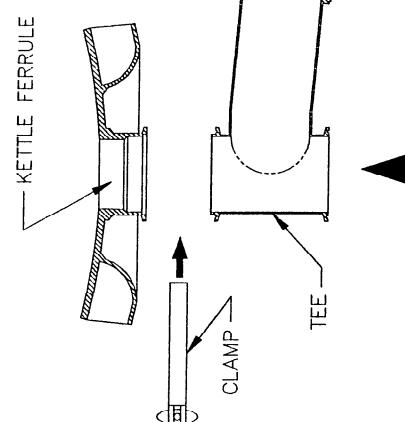

FIGURE 2
2. WHILE SUPPORTING THE VALVE ACTUATOR TO THE SIDE UNTIL THE STEM IS CLEAR OF THE TEE, THEN LOWER THE VALVE ACTUATOR AND SWING IT TO THE SIDE AS SHOWN IN FIGURE 2.
3. REMOVE THE STEM FROM THE VALVE ACTUATOR BY PULLING UP WHILE HOLDING THE VALVE ACTUATOR IN PLACE AS SHOWN IN FIGURE 2. NEXT REMOVE THE O-RING FROM THE ACTUATOR & STEM AS SHOWN IN FIGURE 2.
- 4. ATTACH THE TEE TO THE KETTLE FERRULE WITH CLAMP AS SHOWN IN FIGURE 2.